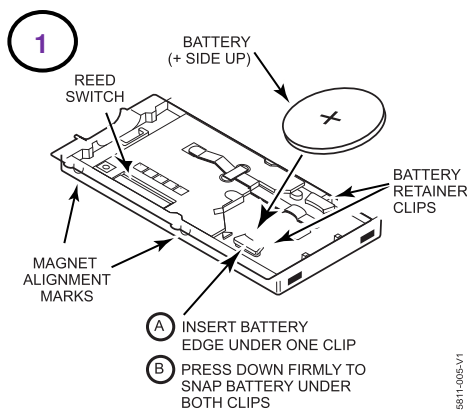

Figure 1. Battery Installation
1. **Install the Battery** by inserting one edge of the battery under one of the two plastic battery retainer clips, then pressing down firmly to snap it beneath both clips; see **figure 1**.